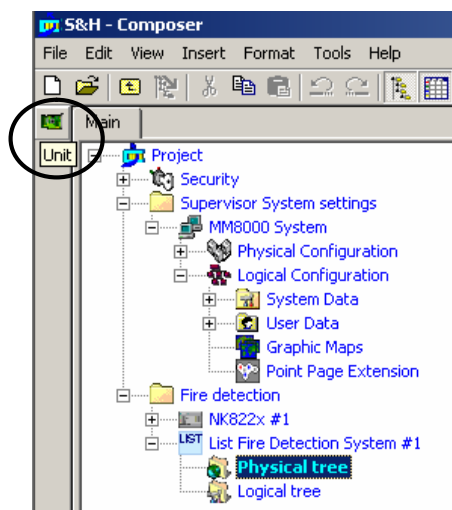

Fig. 11 Adding Unit objects in the Physical Tree
3. Click the 'Unit' icon (Fig. 11) to add as many units as required by your configuration.